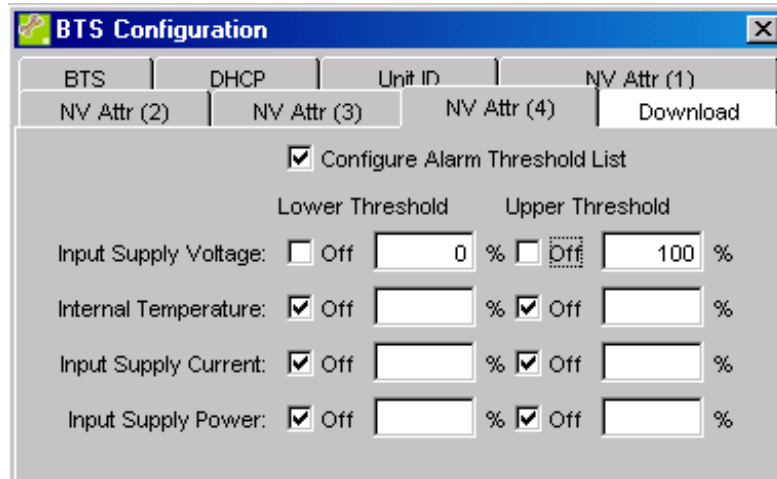

Figure 53 - NV Attr (4) tab
6.7.12 The NV Attr (4) tab
The NV Attr (4) tab, Figure 53, contains additional non-volatile attribute settings. All the controls on this tab are disabled unless the **Enable NV Attr Configuration** check box on the NV Attr (1) tab is checked.